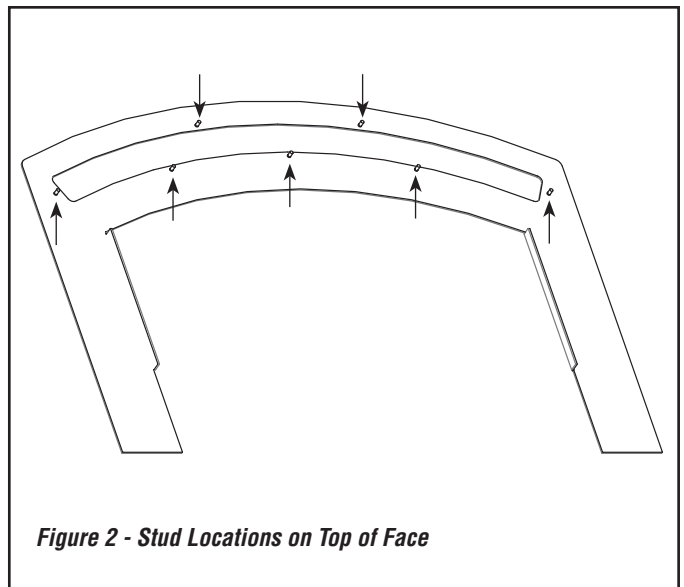

Figure 2 - Stud Locations on Top of Face
Step 3. Next place the classic or arched insets holes over the studs along the top and the bottom designated studs. There are six studs on the top of the face to mount the top inset, and there are 4 studs on the bottom of the face to mount the bottom inset (See *Figure 2* for top stud location and see *Figure 3* for bottom stud location). The nuts to fasten the insets to the face can be found in the box the face came in.